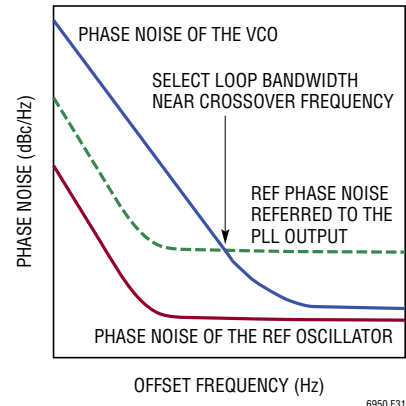

Figure 31. Selecting the PLL's Loop Bandwidth
2. Select the open loop bandwidth (BW). A stable loop requires BW to be less than  $f_{PFD}$  divided by 10. Because the LTC6950 has very low additive noise, in most applications it is desirable, if possible, to select a loop bandwidth near the crossover frequency of the VCO's phase noise and the output referred reference phase noise (see Figure 31). The *phase noise floor* of the reference, referred to the PLL output, is calculated as follows: